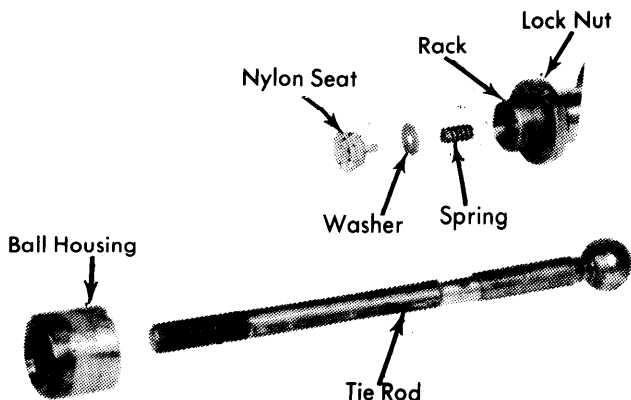

Fig. 4 Exploded View of Tie Rod Assembly
**Disassembly** — 1) With steering gear removed from vehicle, remove rubber boots from tie rods and drain fluid. Mount assembly in a vise and loosen lock nut holding tie rod ball housing. To loosen lock nut use special tool T75P-3504-B with a 5/32" drill and drill collar. Install special tool (see Fig. 4) and drill out lock pins. **NOTE** — Special tool has a depth hole to set drill collar on drill bit. Then remove housing with tie rod, nylon seat, washer and spring. Remove fluid lines from control valve to rack assembly.